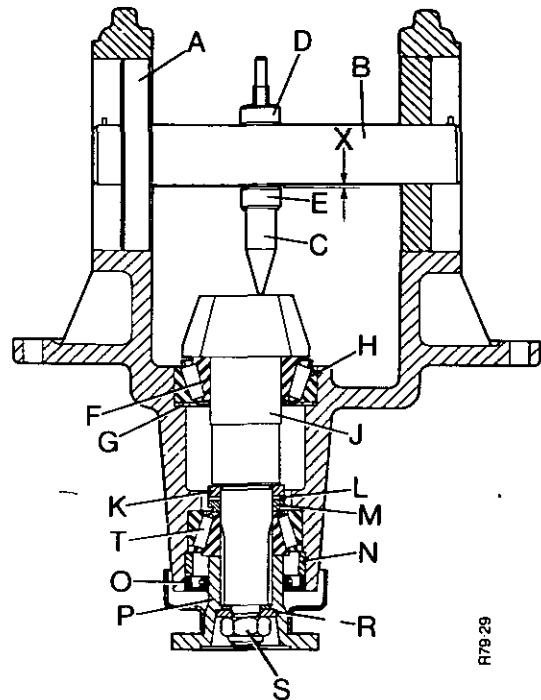

FIGURE 34. SETTING THE BEVEL PINION SHAFT POSITION
10. Put the gauge in position in the support bracket as shown in Figure 34. Install the bearing caps and bolts and tighten to 163 Nm.